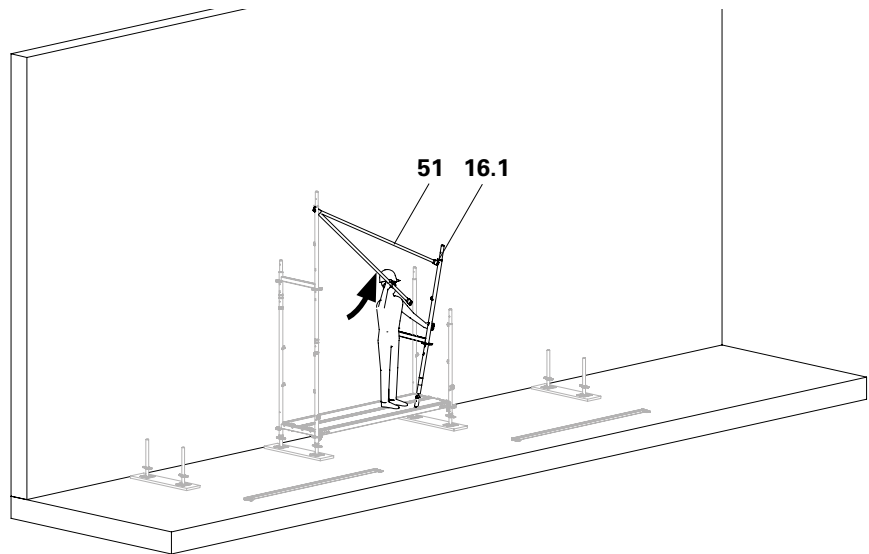

Fig. B2.07
3. Attach Guardrail Post EPG (**51**) to the guardrail hooks (**16.1**) of the second Easy Frame EVF. (Fig. B2.07)